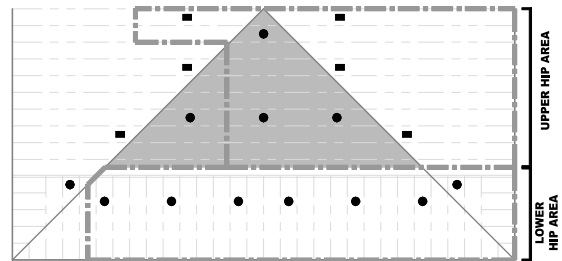

FIGURE 18B
- Calculate up to the 7 most demanding contiguous sprinklers along the eave. This may include sprinklers on both sides of the hip line as shown. See Figure 18B.
If there are 4 sprinklers or less in the shaded area (Figure 18B):